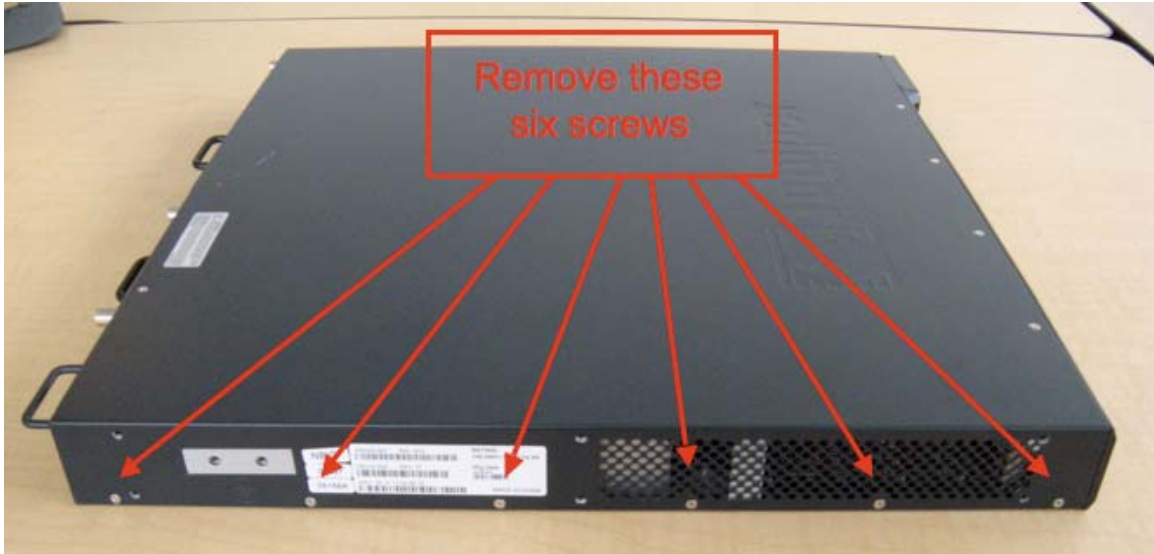

Figure 3-3: Right side screws
4. Remove six screws from right side of chassis (figure 3-3)